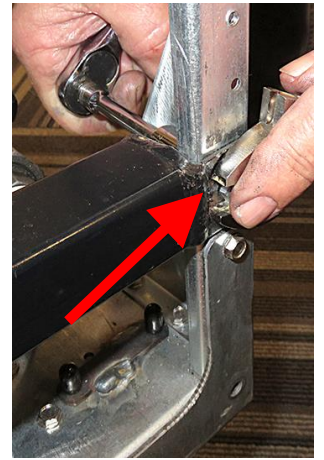

Figure 73
73. Remove far right nut and bolt, as viewed from the rear of the fryer, attaching the return oil manifold to the frame (see Figure 73).